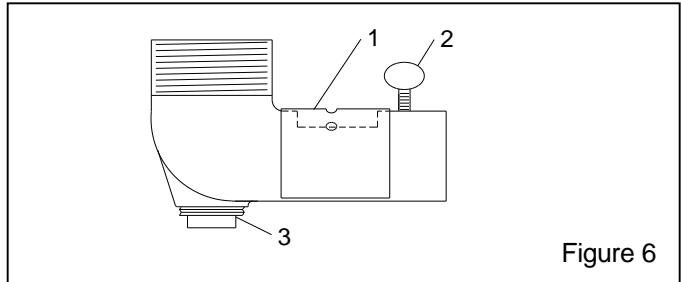

Figure 6
8.2 Feed Elbow Assembly, Figure 6